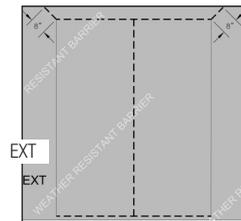

FIG. 2
- Make an "I-Cut" in the weather-resistant barrier (WRB). Begin with a horizontal cut along the bottom and the top of the rough opening. Then make a vertical cut in the center from top to bottom. (Fig. 2)
- From the exterior, make two diagonal cuts at the top of the "I-Cut" as shown in (Fig. 2) to form a flap.